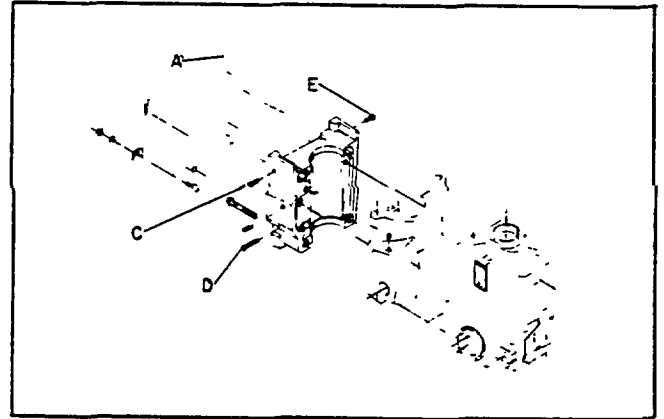

Fig. 13
3. Mount the motor to the motor plate, (A) Fig. 13, using the four 5/16" - 18 x 1" carriage bolts, the speed nuts, the plain washers and the four 5/16" - 18 hex nuts. Tighten the hex nuts only finger tight.
4. Loosen the two screws (C and D) Fig. 13, and also loosen the screw (E) on the right hand side of the head. Set the motor plate 7/8" from the back of the drill press head casting and tighten the three screws.
10. Then place the level in front to back position first on the spindle pulley and then on the motor pulley. (Make a mental note of the position of the bubble.) If the motor pulley has to be tilted to the front or rear, loosen the three screws (C, D, E) Fig. 13, and using a crowbar pry out the top or bottom of the motor plate until the motor shaft is in parallel alignment with the drill press spindle. Then tighten the three screws (C, D, E) Fig. 13.